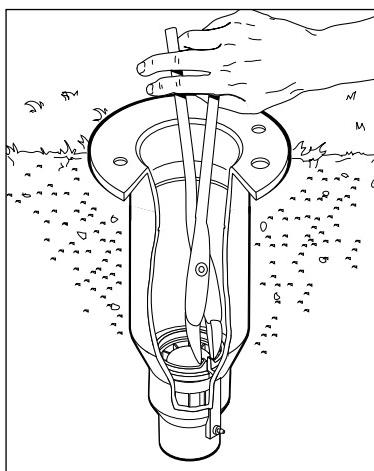

Figure 3
1. To remove valve assembly, squeeze ears of snap ring pliers together with snap ring pliers (P/N 995-07) and remove snap ring from sprinkler body. (See **Figure 3**.)